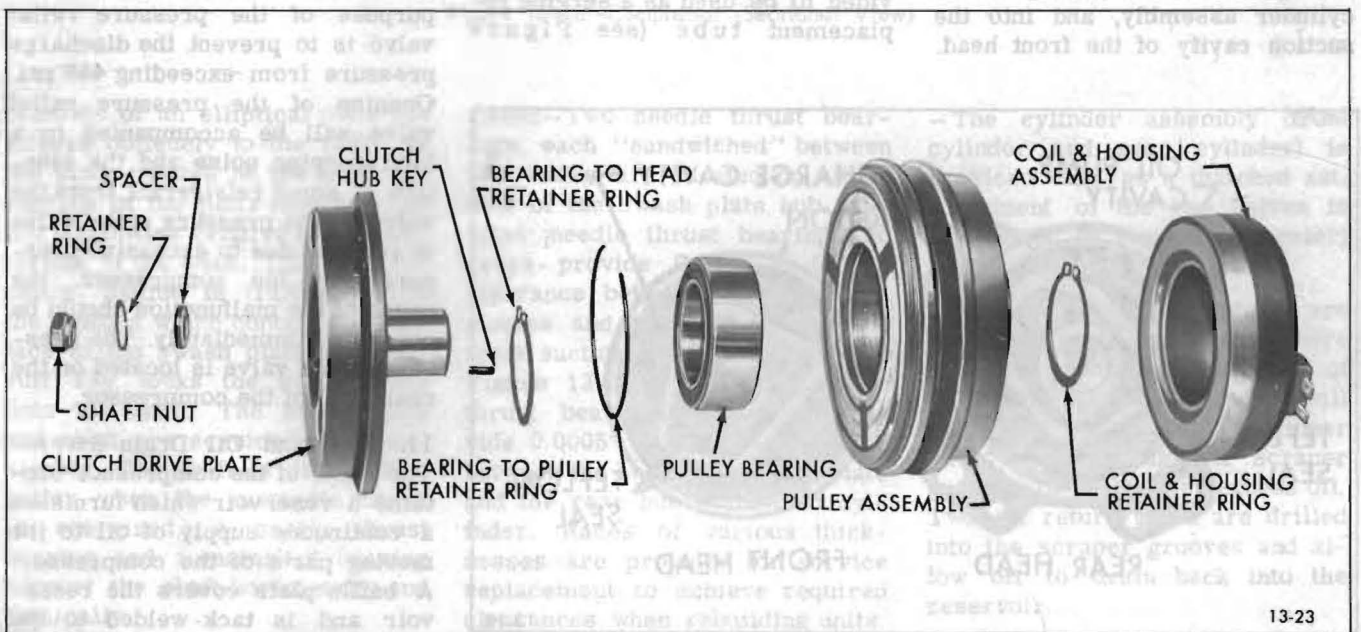

Figure 13-23—Magnetic Clutch and Pulley Assembly
12. Magnetic Clutch and Pulley Assembly--The magnetic clutch and pulley assembly (see Figure 13-23) together transmit power from the engine crankshaft to the compressor. The magnetic clutch